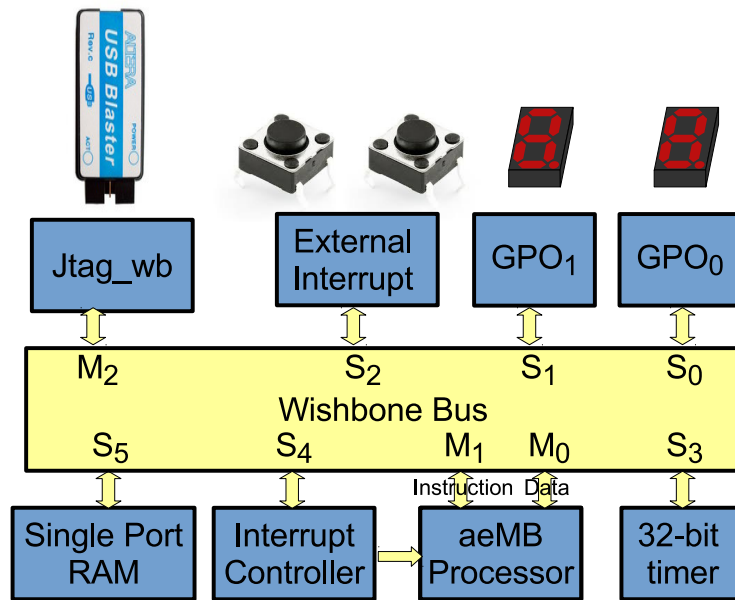

Figure 1: The schematic of desired SoC in this Tutorial.
Figure 1 illustrates the desired hardware architecture in this tutorial. This architecture consists of:
9. A Clock source (not shown in Figure 1).
2. In parameter setting set `M` (master interfaces number) as 3 and `S` (slave interfaces number) as 6. These values are obtained from Figure 1. You can changed them later if you want to add/remove any IPs.